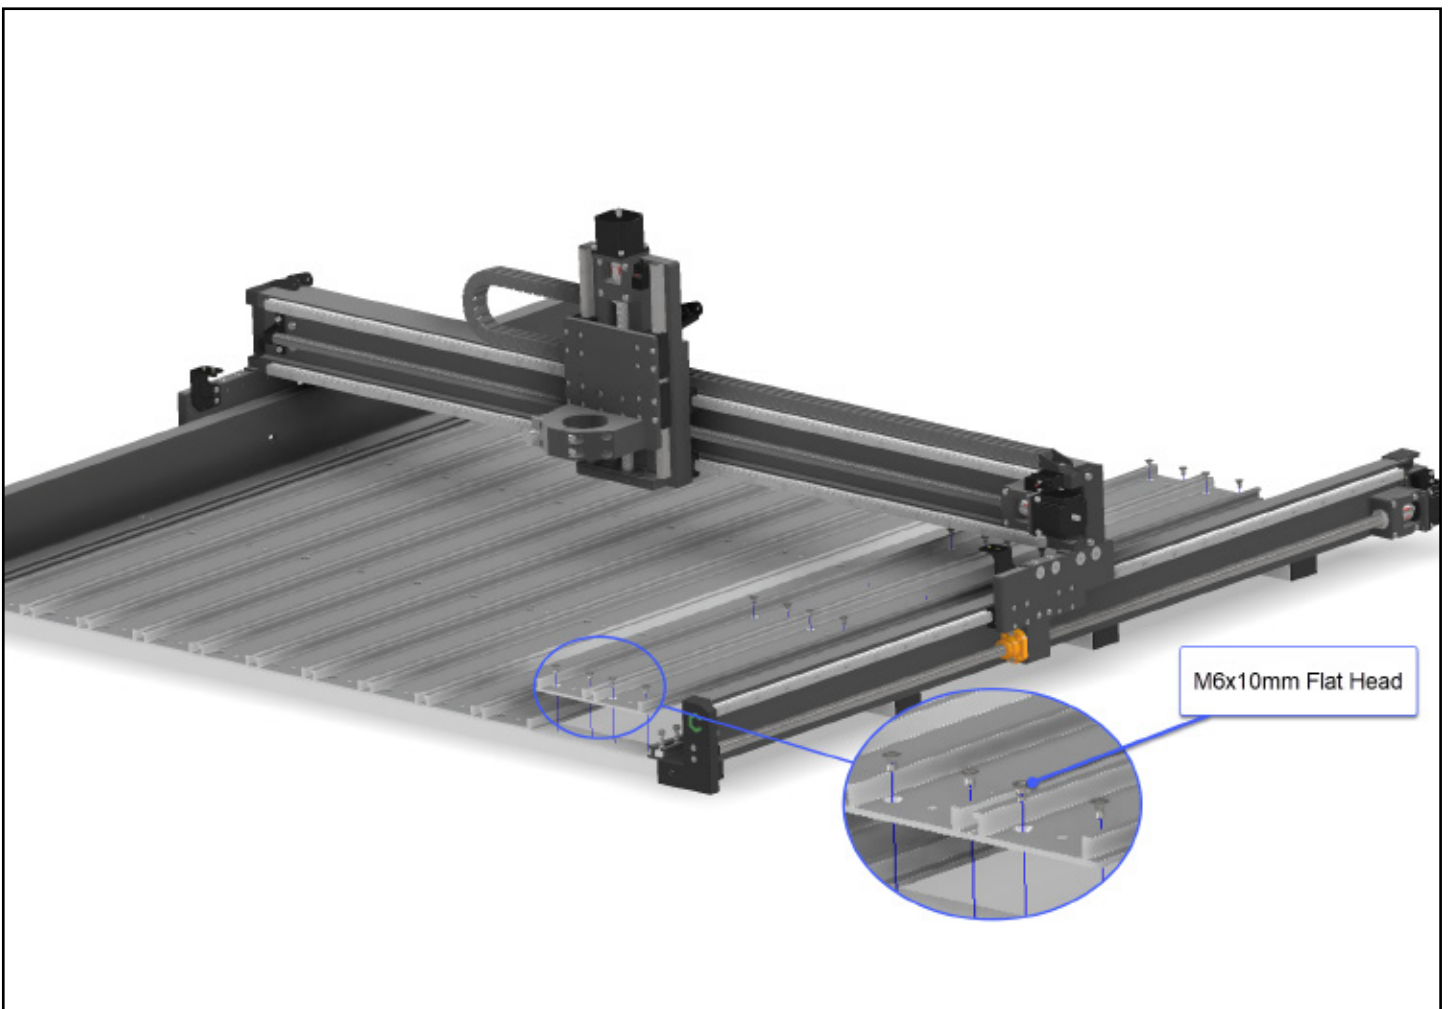

Figure 3-1
2. Lay the ten (10) aluminum Hybrid Table extrusions across the baseframe, front to back.
3. Use a 4mm hex key and eight (8) M6×10mm FHS to loosely attach each extrusion. See **Fig. 3-1**.